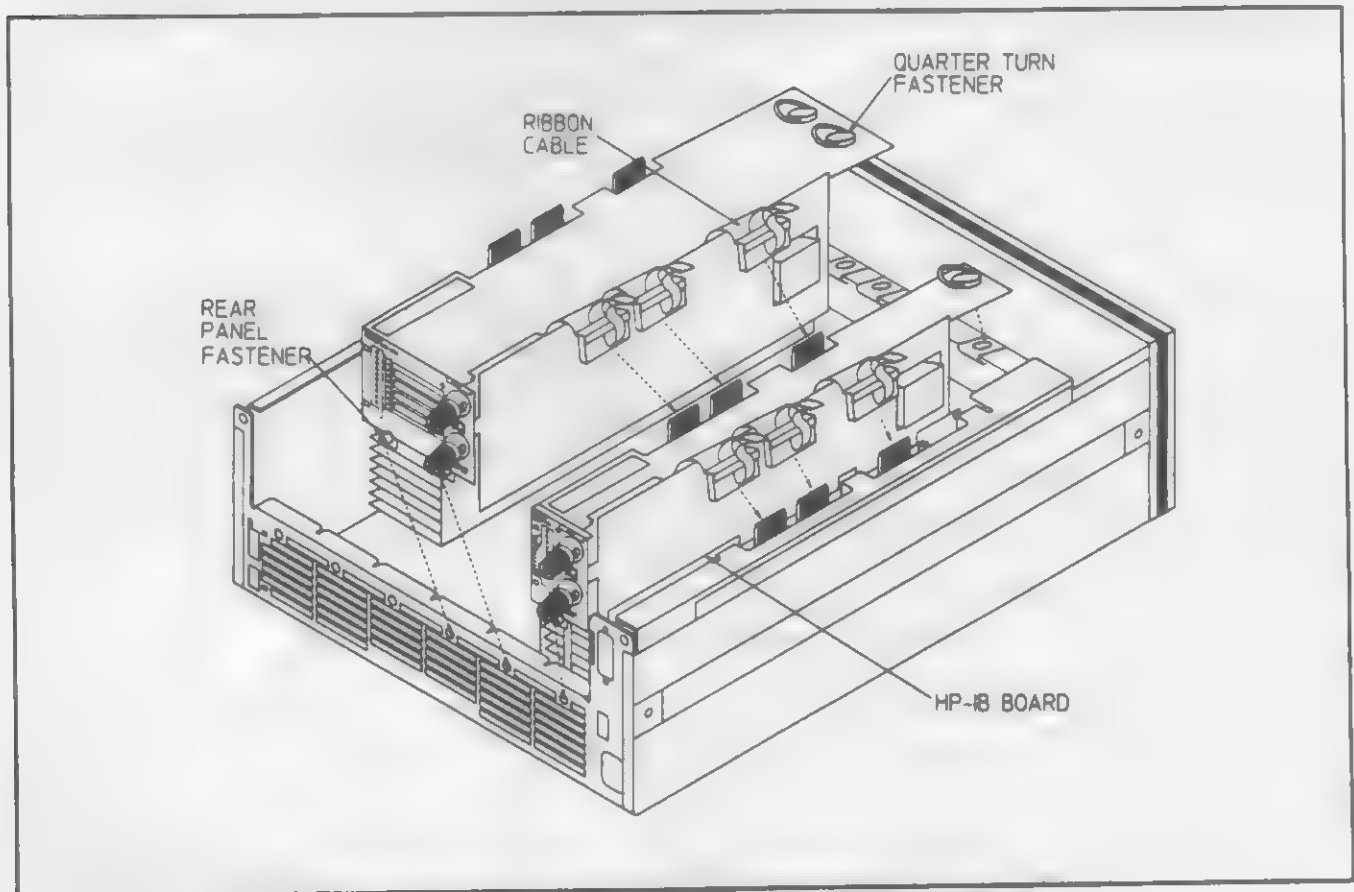

Figure 3-2. Installing Modules in a HP 6050A Electronic Load
4. Start installing the modules in the slot next to the HP-IB board (see Figure 3-2.)